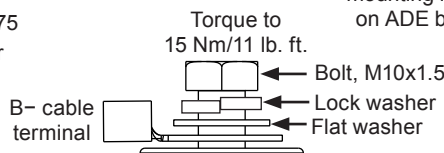

Figure 4: B- Terminal Hardware Stacking Order
7. Connect vehicle B- cable to alternator B- terminal. Install terminal hardware in stacking order shown in Figure 4 and torque to 15 Nm/11 lb. ft.